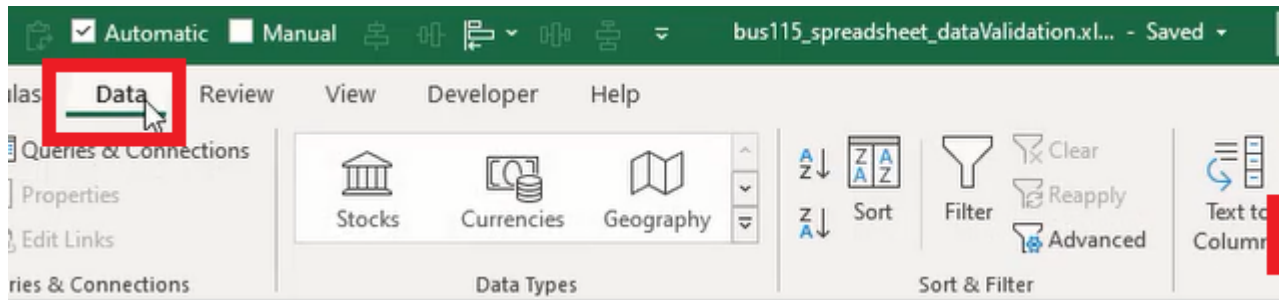

Figure 20.1
3. Select **Data Validation** in the Data Tools field. (See **Figure 20.1**)